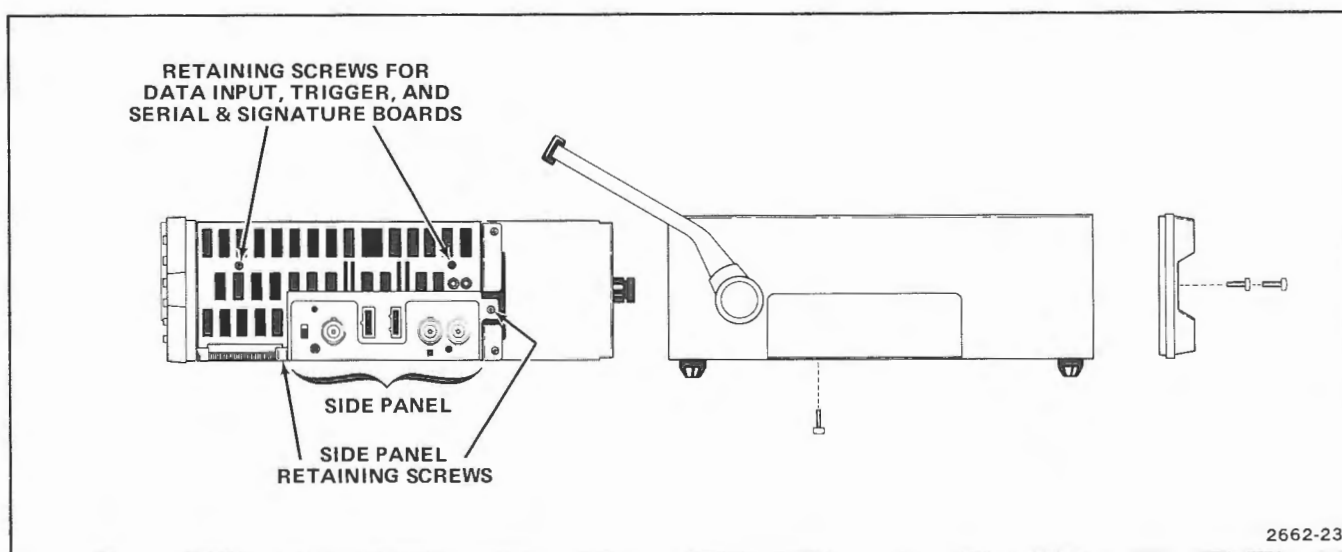

Figure 5-7. Side panel and circuit board removal.
2. Remove the two screws that fasten the side panel to the chassis and the two screws that retain the three circuit boards (see Figure 5-7).